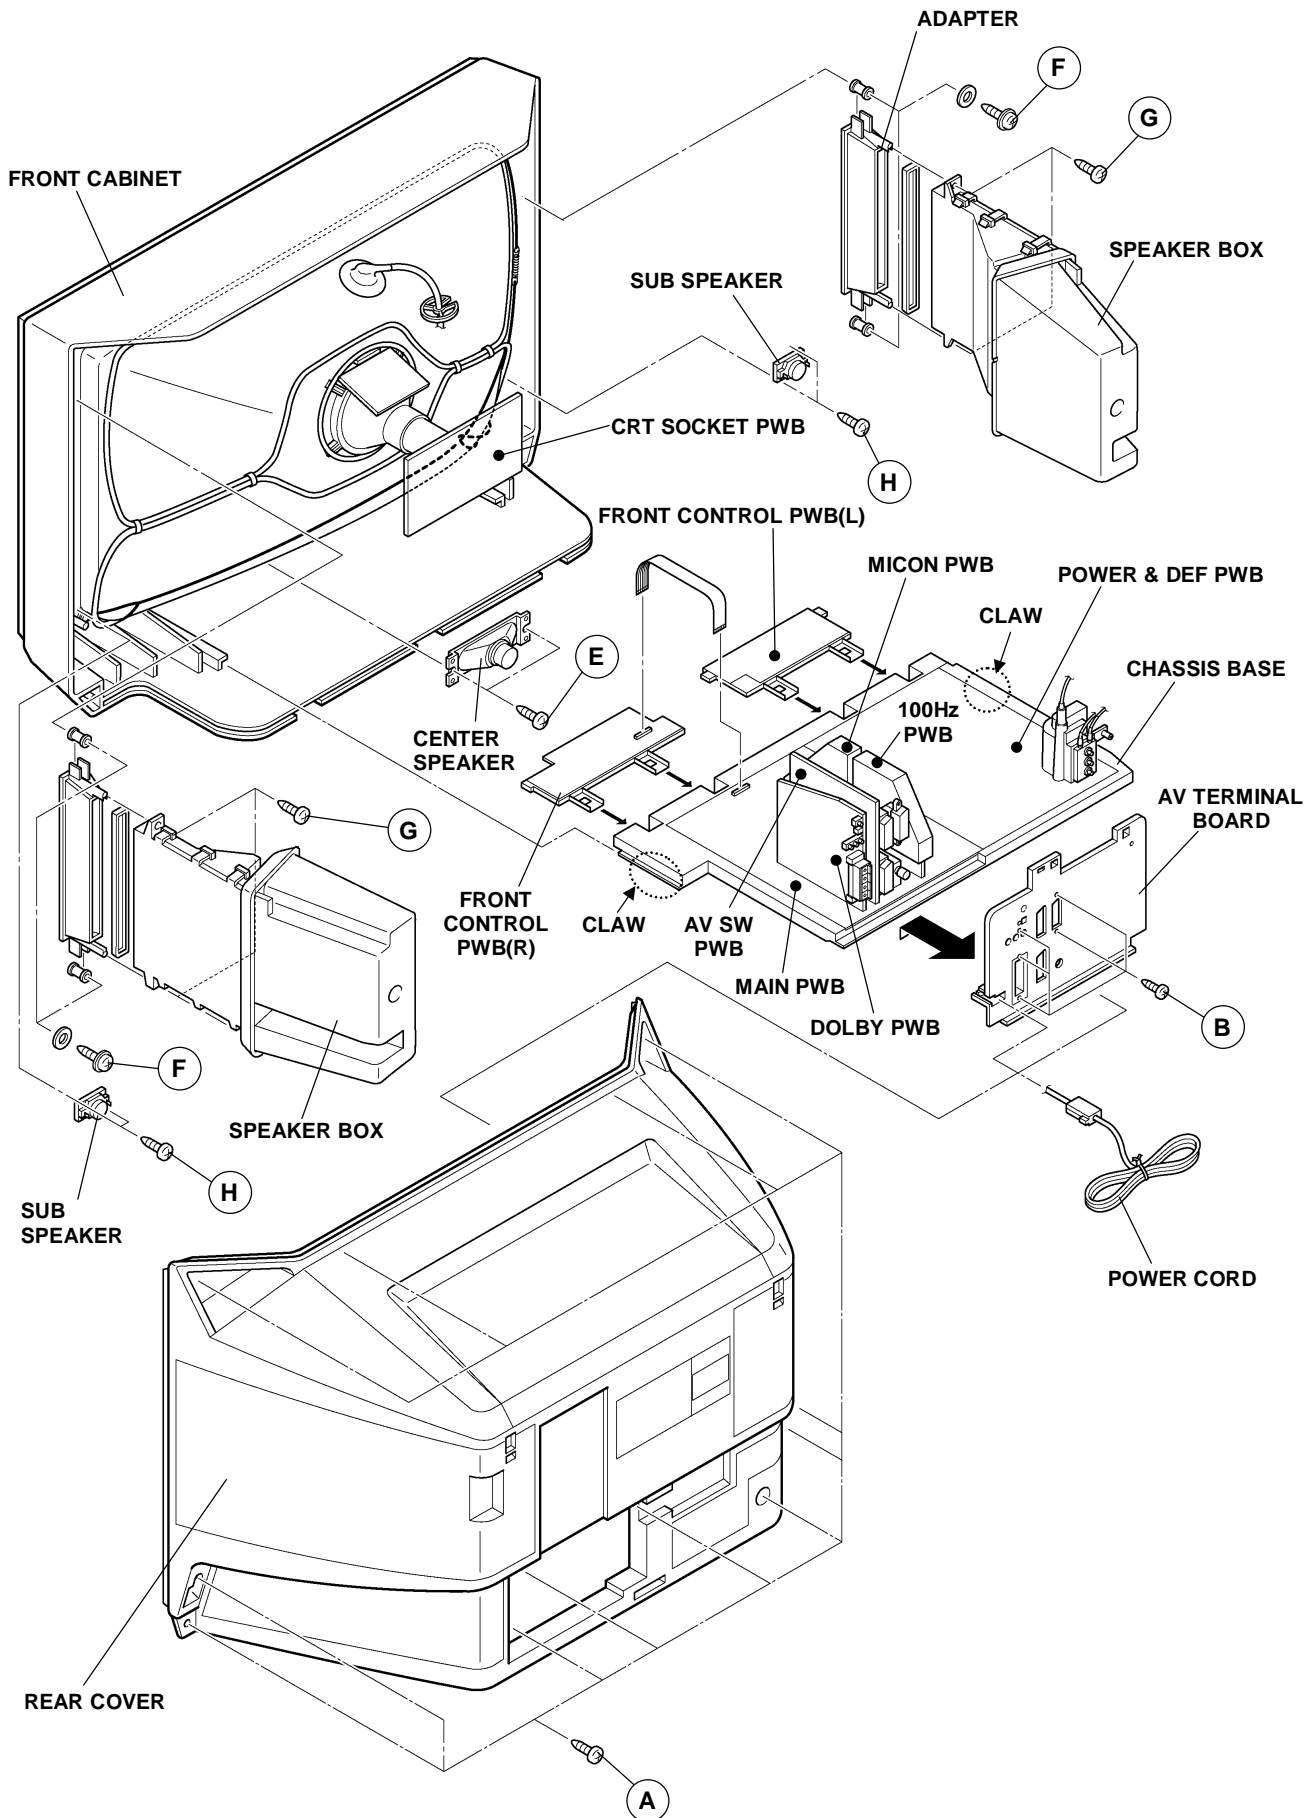

Fig. 1
1. As shown in Fig. 1, remove the **5** screws marked **B**.
1. As shown in the Fig. 1, remove the **2** screws marked **E**.
1. As shown in Fig. 1, remove the **2** screws marked **F** attaching the speaker box to the front cabinet.
1. As shown in Fig. 1, remove the **2** screws marked **H**.